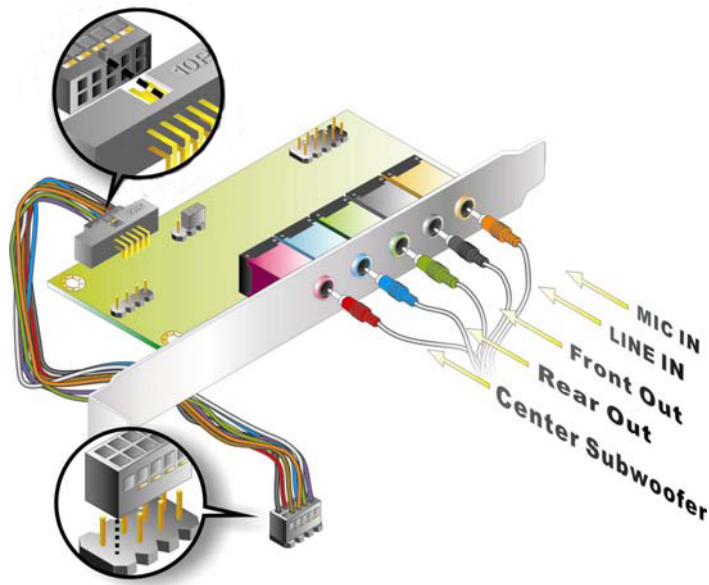

Figure 5-5: 7.1 Channel Audio Kit
Step 3: Align pin 1. Align pin 1 on the on-board connector with pin 1 on the audio kit cable connector. Pin 1 on the audio kit cable connector is indicated with a white dot. See Figure 5-5.